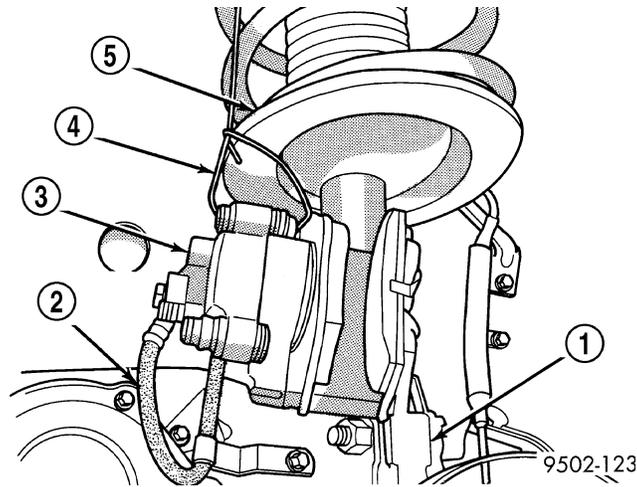

Fig. 2 PROPERLY SUPPORTED DISC BRAKE CALIPER - TYPICAL
6. Support the disc brake caliper assembly by using a wire hook and suspending it from the strut assembly (Fig. 2).